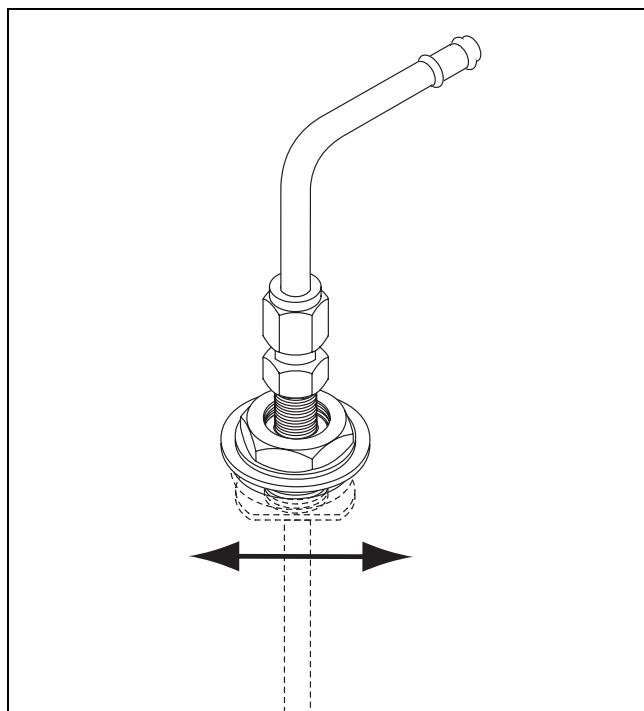

Figure 21: Standpipe installation - illustration 3
8. center standpipe in tank hole. See Figure 21.